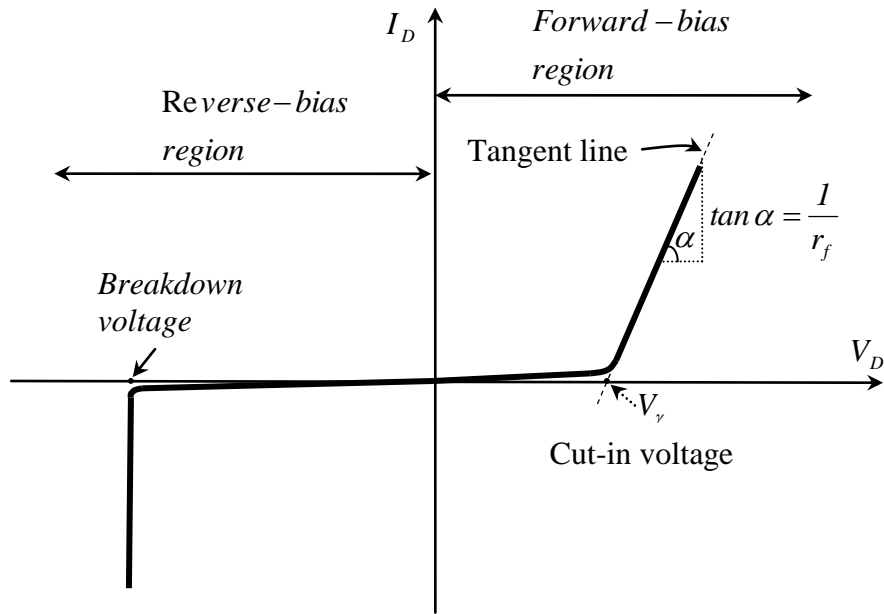

Figure 4. Real diode characteristics
When a real diode is reverse biased a minuscule leakage current, I_S , flows through the device. This current can be effectively ignored as long as the reverse breakdown voltage of the diode is not exceeded (see Figure 4). At potentials greater than the reverse breakdown voltage, charge is pulled through the p-n junction by the strong electric fields in the device and a large reverse current flow. This usually destroys the device.
Real diodes have internal resistance called forward diode resistance, r_f , which can be found as follow (see Figure 4):
- 4) Determine the value of cut-in voltage V_γ (see Figure 4)